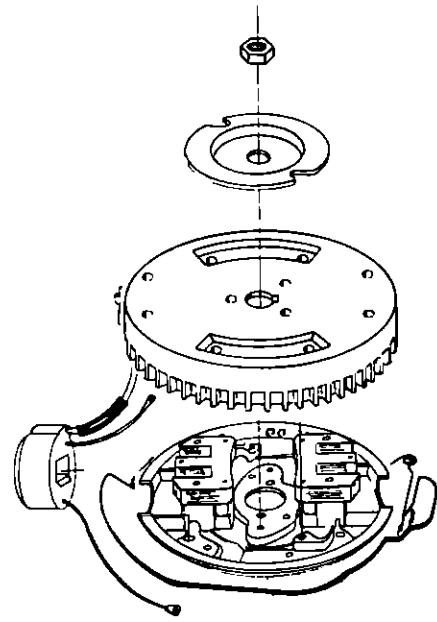

Figure 13. Flywheel and Ignition Components.
- 2 Remove flywheel and ignition components Figure 13